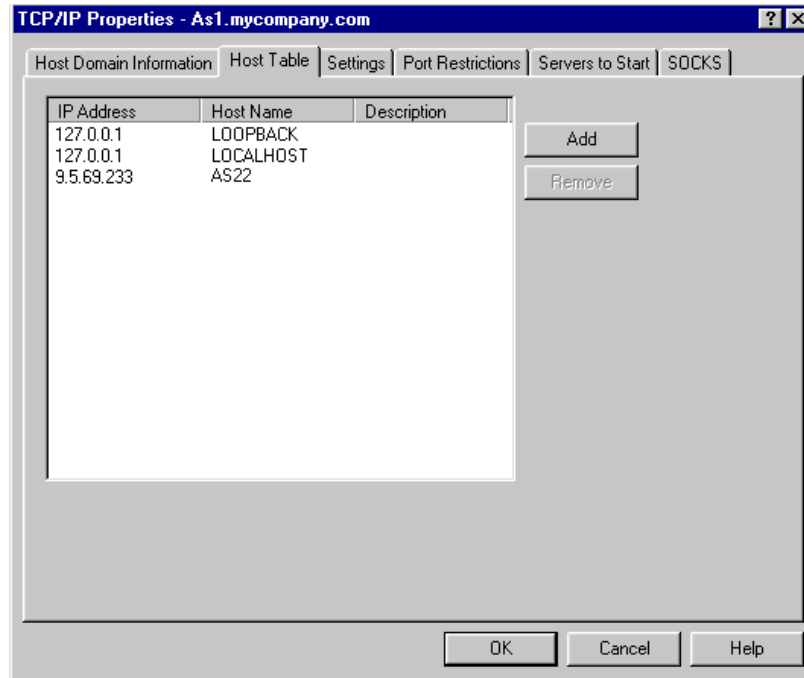

Figure 463. Host Table
4. Click the **Host Table** tab to add and remove host table entries. If you are using the Domain Name System (DNS), you do not necessarily need to add entries here. Figure 463 shows the Host Table dialog.